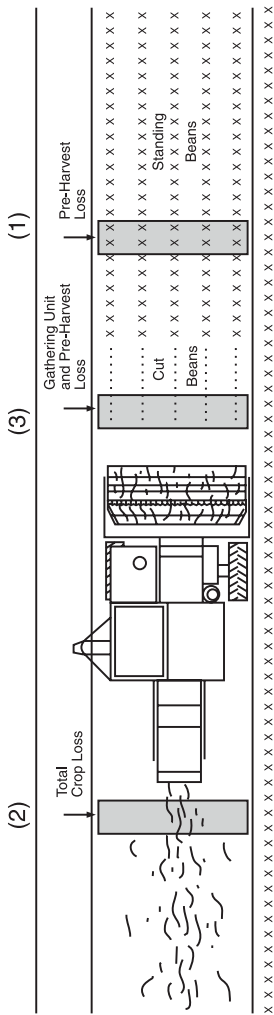

Figure 9. Location of areas to make seed loss counts.
Refer to Figure 9 (page 141) and record your seed counts in the “Loss” table (see below).
- 2) Using the 1-foot-square frame, count all beans in the frame as the frame is moved across the width of the cutter bar. Refer to Figure 9.
*This is location 1 in Figure 9.*
*This is location 2 in Figure 9.*